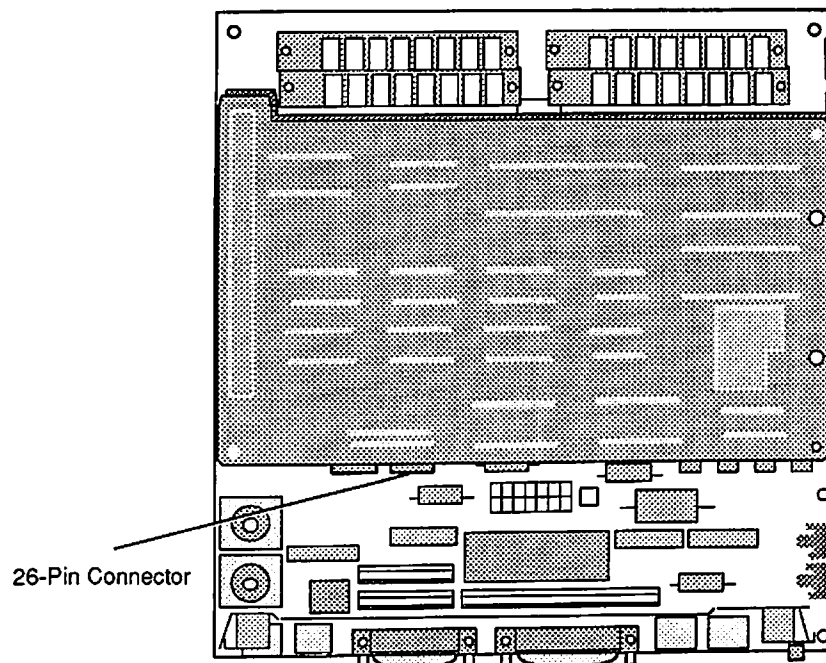

Figure 5-7 Disconnecting the Cable
5. **Figure 5-7.** Unplug the SE-Bus PC Card cable from the 26-pin connector on the SE-Bus PC Card